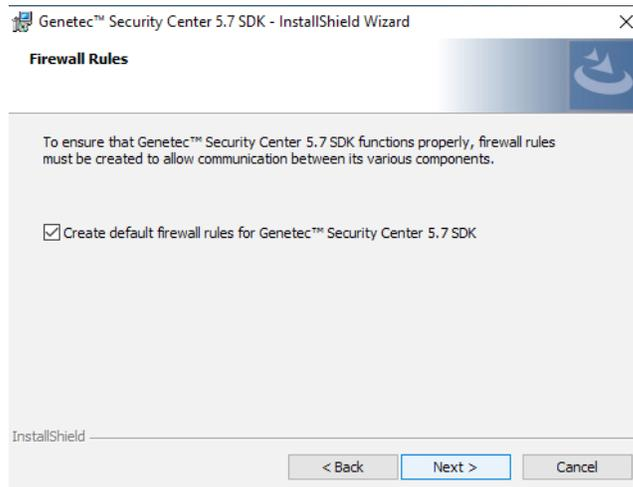

Figure 14
16. Ensure that "Create default firewall rules for Genetec Security Center x.x SDK" is selected, then click Next (Figure 14).